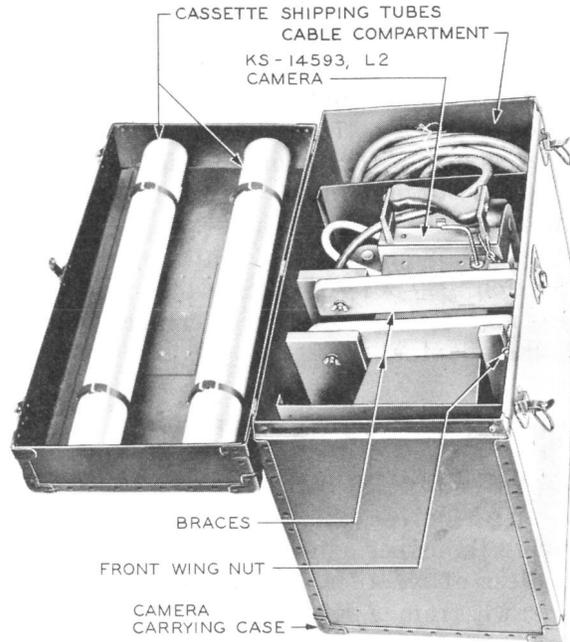

Fig. 1 — Camera in Carrying Case
1.03 The KS-14593 L1 message register camera consists of the KS-14593 L2 message register camera described in 1.04 through 1.08, and the KS-14594 power unit described in 1.09 through 1.11. Both the list 2 camera and the power unit are provided with carrying cases. The camera in its carrying case is shown in Fig. 1. The KS-14778 photo processor is described in 1.12 through 1.15.
1.17 The KS-16148 loaded cassette is wrapped with a spacer over each end of the cassette core to prevent impacts on the core during handling which might result in binding of the paper as it is drawn from the cassette. Five loaded cassettes are furnished in the shipping tube shown in the cover of the camera carrying case in Fig. 1. A label on the outside of the tube shows the expiration date and emulsion number of the paper in the tube.
4.01 Remove the camera from the carrying case as follows. Unlatch and swing back the cover of the carrying case. Loosen the front wing nuts on the two braces which hold the camera in the case, as shown in Fig. 1. Swing the braces away from the camera. Lift the camera from the case, taking care that the flash indicating windows on the camera hood do not strike the wing nut or bolt on the adjacent vertical portion of the brace in the case. Place the camera on the floor or on a suitable support convenient to the location where it is to be used.
5.10 If additional photographs are not to be taken, mount the empty cassette in the trigger side of the camera to insure that a cassette with a magnetic insert will be available when the camera is next used. Mount the cover on the camera. Remove power from the power unit. Unscrew the camera cable plug locking ring and remove the plug from the jack on the power unit. Place the camera and power unit in their carrying cases. When placing the camera in its case, take care to position it so that the brace farther from the cable compartment engages both portions of the hood of the camera (Fig. 1). This position of the camera will prevent distortion of the hood by the brace. Also, make sure that the camera pilot lamp cap clears the vertical portion of the adjacent brace in carrying cases in which the brace is not notched at this point.